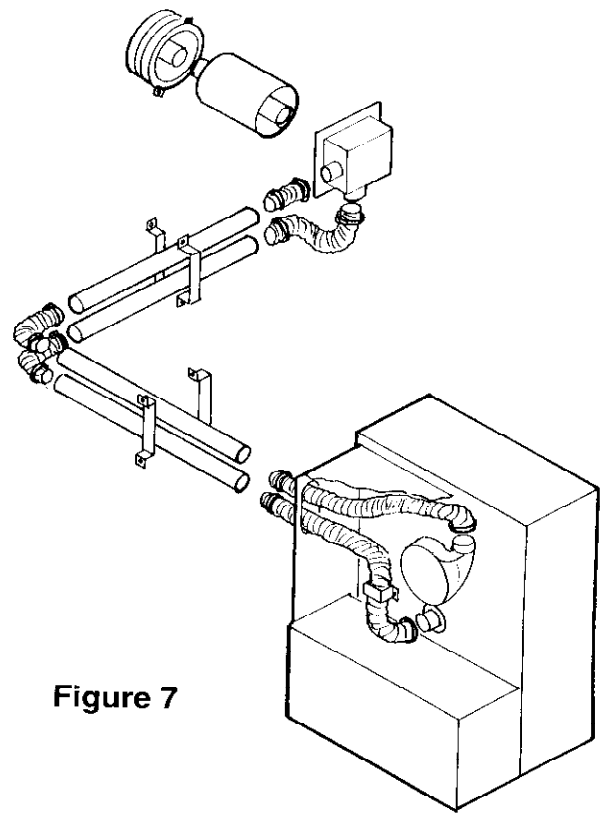

Figure 7
- a) The flue assembly may be positioned to the left, right or above the heater, and also to an adjacent wall (see example in Figs. 7 & 8).
- e) Refit the appropriate infill panel(s), and connect the additional flue fitting kit between the heater and the previously fitted flue assembly (see Figs. 7 & 8). Ensure that when connecting any stainless steel pipe into flexible aluminium hose, a bead of silicone sealant is applied to the pipe before insertion, and that the pipe is inserted at least 30mm into the hose before tightening the hose clip. Also ensure that the hose/pipe assembly from the combustion fan is connected to the manifold spigot marked "F".